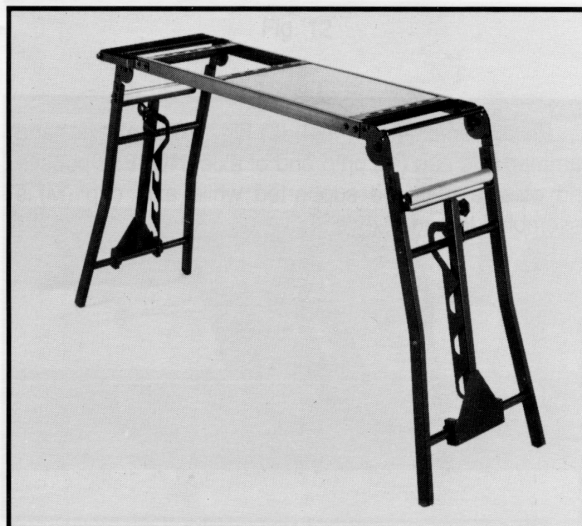

Fig. 6
3. Fig. 6, illustrates the work stand in the upright position with the two legs locked in place.